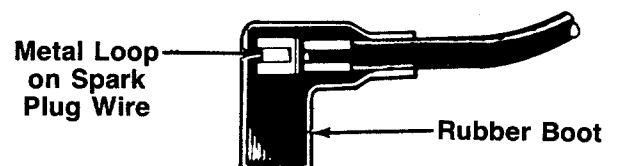

FIGURE 21.
1. Attach spark plug wire to spark plug. Make certain the metal loop on the end of the spark plug wire (inside the rubber boot) is fastened securely over the metal tip on the spark plug. See figure 21.